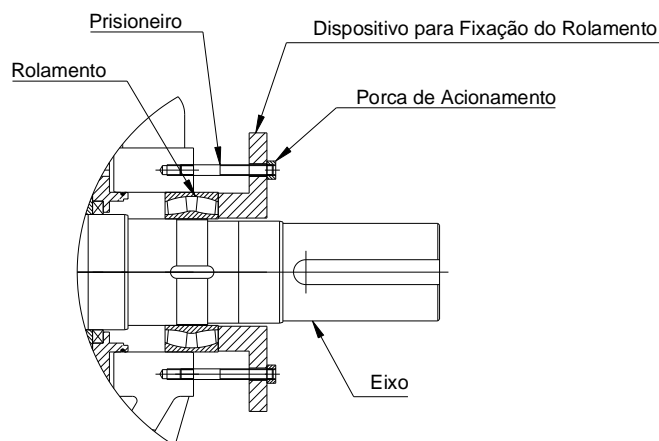

Figure 57
Once the bearing reaches the back of Axis, you should put the Washer and Nut-Lock-Lock respectively, see the suggestion of the device, Figure 57. The Roller Side of Driven to be mounted in the same way as the side Blocked.
3. To cut the gasket of the Rings, it is advisable to use a simple device that we as Figure 57.